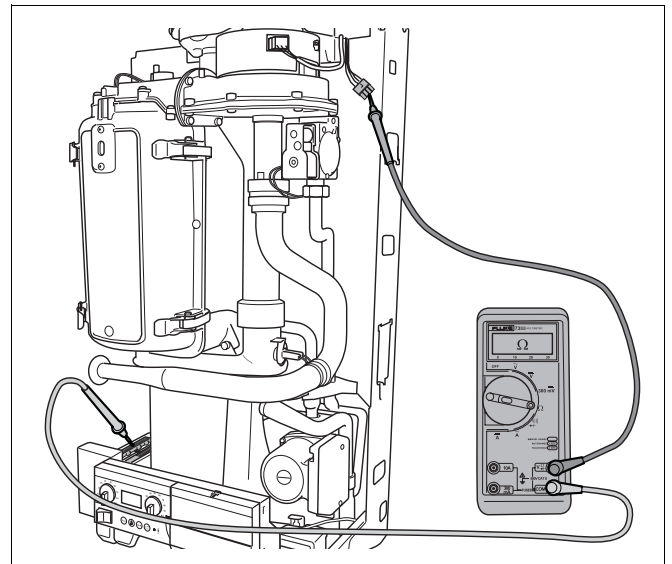

fig. 71 Measure resistance of tachoplug
- If necessary measure the resistance over the tachoplug (→ fig. 71) in the same manner.